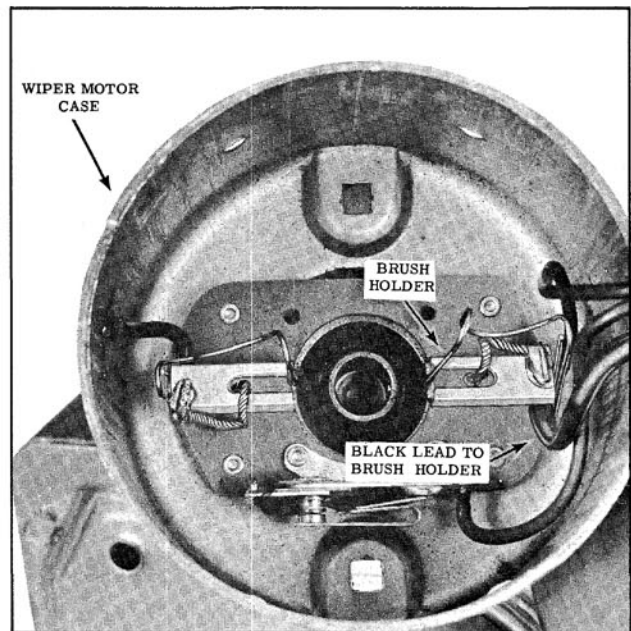

Fig. 13-137 Field Coil Connections in Case
5. Unsolder black solid wire from brush holder in case as shown in Fig. 13-137.